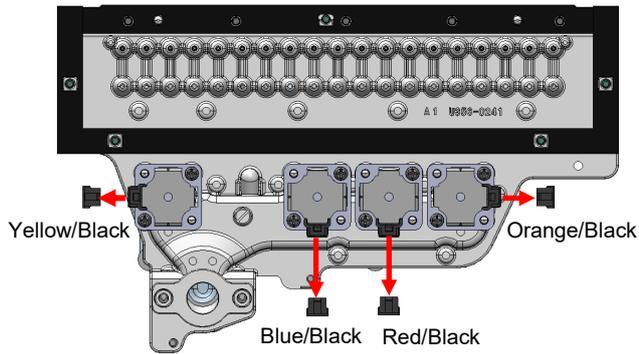

Figure 7
- Disconnect the solenoid wires from all four gas solenoids (Figure 7).